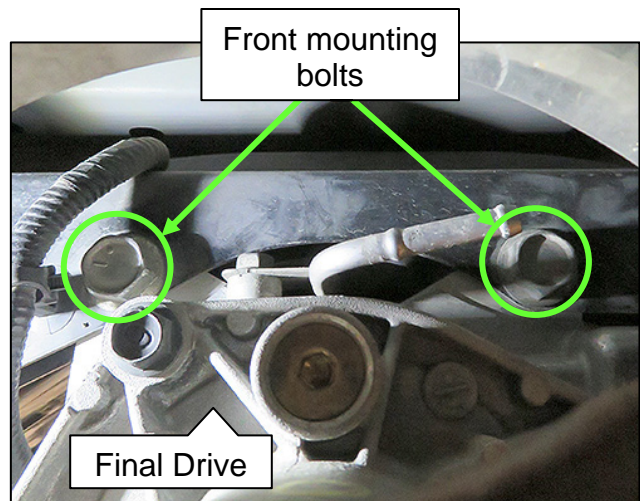

Figure 4
5. Remove the two (2) front mounting bolts of the Final Drive (differential) to access the top of the Final Drive (Figure 4).